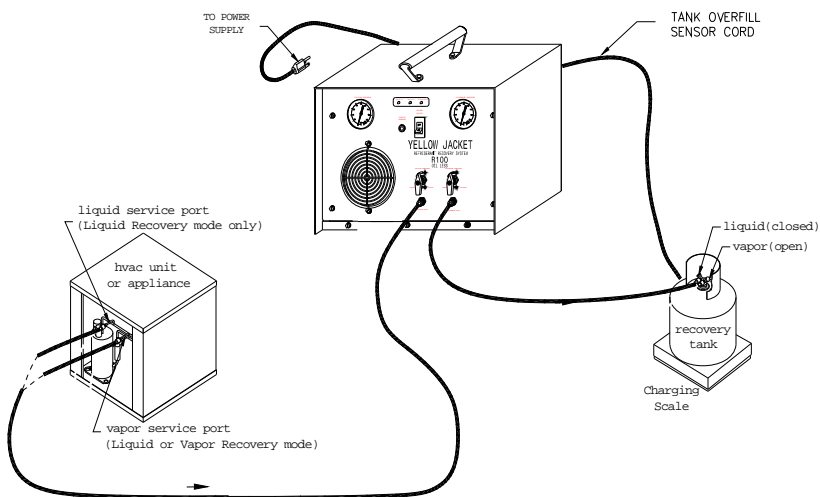

Figure 2
Use a sight glass to determine when the liquid is being “pushed” into the recover tank. When liquid refrigerant is no longer visible, switch to Vapor Recovery (see figure 2).
The hose connections for vapor & liquid recovery are shown in the figure 2. To perform vapor or liquid recovery, please follow the steps below:
3. Connect the recovery unit, the system to be serviced, and the recovery tank as shown in the figure 2. The suction hose can be connected to the liquid and/or vapor service ports. **If you connect to the liquid service port, ensure you use Liquid Recovery.** Also ensure the hose to the tank is connected to the DISCHARGE port of